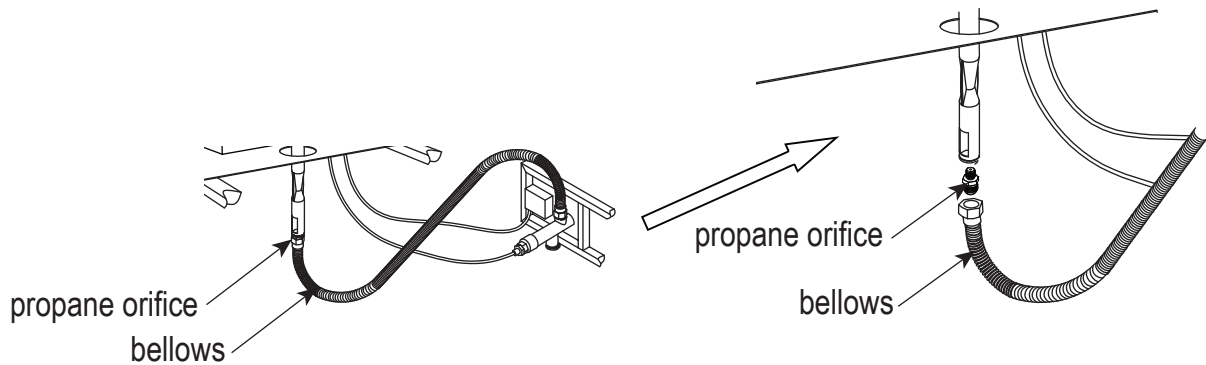

Figure 9
2. Unscrew and disconnect the propane orifice from the bellows (See Figure 9). Propane orifice (dia2.21mm size) is painted with red mark.